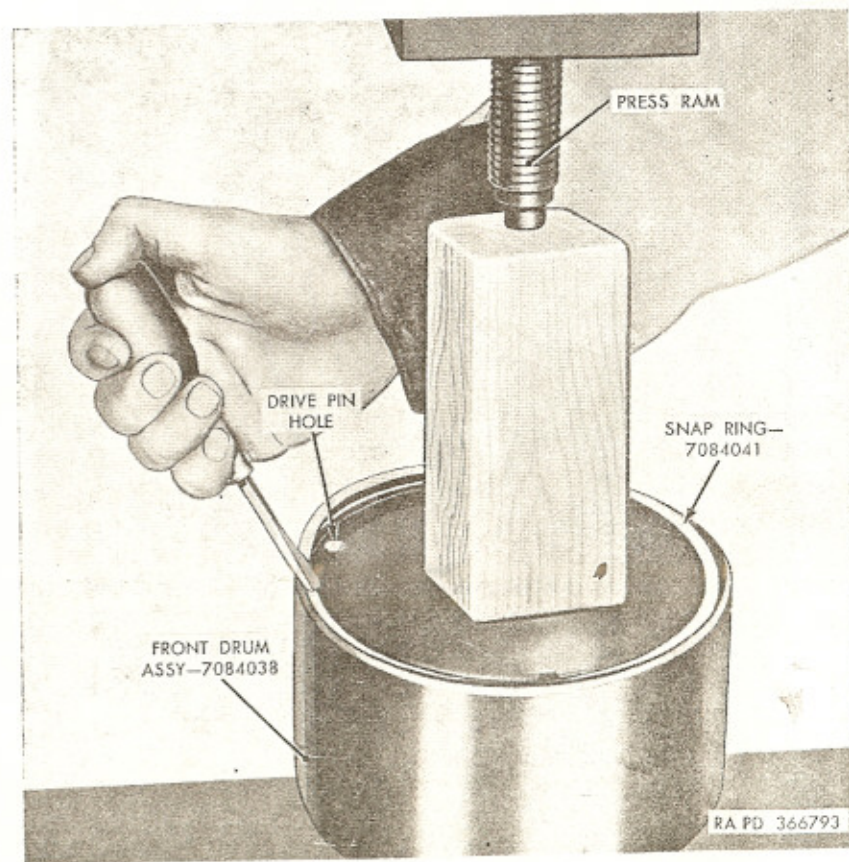

Figure 104. Removing clutch drum snap ring.
a. Position front planetary unit assembly in arbor press, with wood block between press ram and clutch drum. Apply only enough pressure to remove snap ring (K) by prying with screwdriver (fig. 104).
c. Remove clutch drum assembly (J), with clutch piston (F), from front drum assembly (A). This can be accomplished by
k. Lift front planetary unit from carrier assembly and place unit in arbor press, with wood block between press ram and clutch drum (fig. 104). Apply only enough pressure to permit installation of clutch drum snap ring (K). Position gap of snap ring half-way between two of the front drum guide pins. Set snap ring into groove, using a blunt punch.
b. Remove rear clutch hub (Q) and bronze thrust washer (N).
c. Position rear unit in arbor press with wooden block between clutch drum assembly and press ram (fig. 104). Press downward
on drum sufficiently to clear locking shoulder of rear drum; then pry out clutch drum snap ring with screwdriver (fig. 104).